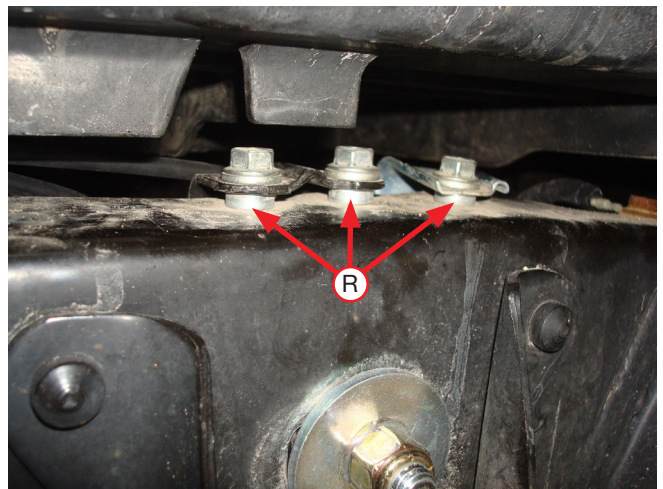

Fig. 15
11. Set the three pin spacers (R) under the brake line and wiring harness brackets where the three stock bolts were removed in Step 3 of the Prepare the Vehicle section. Re-install the bolts that were removed and tighten securely (Fig. 15).